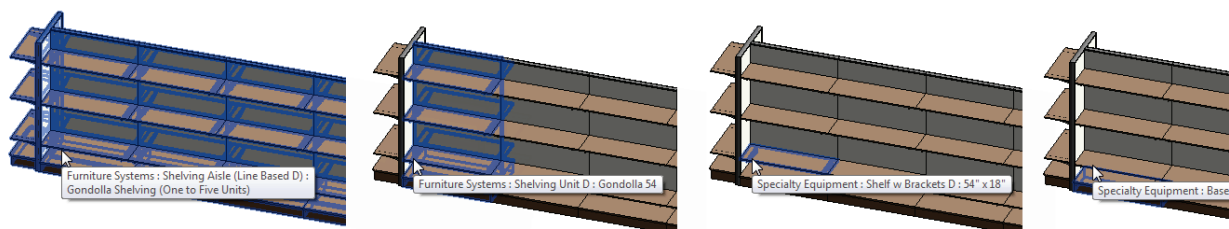

Figure 17—Nesting multiple levels
- Give careful consideration to how many levels of nesting you introduce**—It is possible to nest multiple layers deep. In other words, you can nest family A into family B and then in turn nest family B into family C and so on. There can be benefits to doing this, but **each level of nesting you introduce will increase the complexity of the final family** and make it more challenging to track down problems when it does not flex properly. Multi-level families have been created quite successfully, but careful planning and documentation is a must. If you are not sure how deep to nest, start with a **manageable rule-of-thumb of say three levels and work from there**. If you are building a family that seems to need more than three levels, don't immediately rule it out, just let it be a small red flag that tells you to look for other ways to solve the problem. If no viable alternative can be determined, then “break the rule” for that family (see Figure 17).